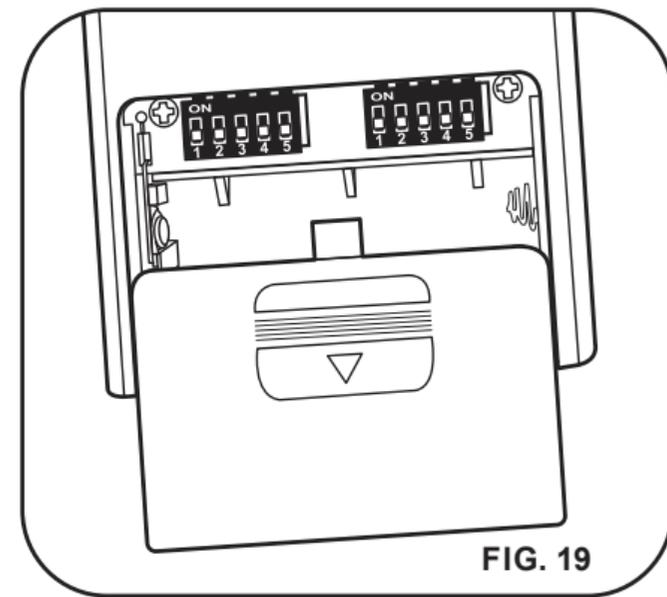

FIG. 19
1. Select desired frequency from the back of transmitter. (Figure.19)